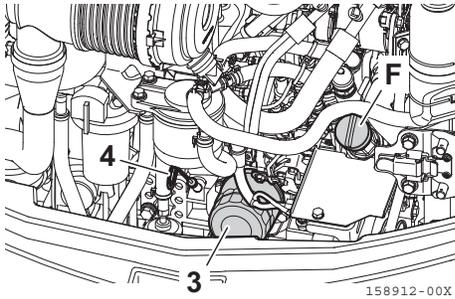

Fig. 8-48
5. Turn the oil filter (cartridge) (Fig. 8-48, 3) counterclockwise with a filter wrench to remove.
After removing the oil filter (Fig. 8-48, 3), wait for 10 to 15 minutes.
6. Clean the filter mount and apply the engine oil (or apply grease lightly) to the seal surface of a new oil filter (Fig. 8-48, 3) and install the filter.
8. After replacing the oil filter (Fig. 8-48, 3), add engine oil to the upper limit mark on the oil dipstick (Fig. 8-48, 4) through the oil supply port (Fig. 8-48, F).
9. Tighten the oil supply port cap securely, and allow the engine to run at low idle speed for a while and then stop the engine. After that, check that the oil level exceeds the midpoint between the upper and lower limit marks on the oil dipstick (Fig. 8-48, 4). Refer to "Checking before start-up" on page 109.